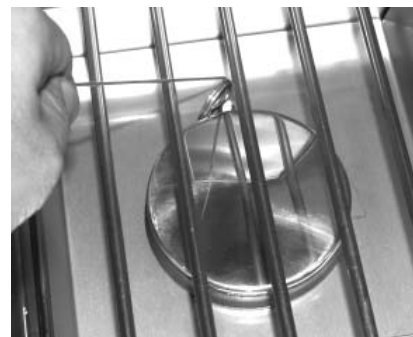

Fig. 19-2 - Manual lighting
2. Insert either a burning long-barrel butane lighter, a burning long-stem match, or a burning match held by a wire extension holder through the cooking grid opening to the burner (Fig. 19-2). Hold the flame against the edge of the burner.
4. If the burner does not light within five (5) seconds of turning the control knob, **immediately depress the knob and turn the valve to OFF**. **WAIT FIVE (5) MINUTES** before repeating steps 2 through 4 of the MANUAL LIGHTING instructions.